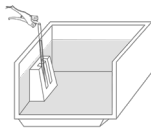

Figure 5. Sealing the container straw
- 6) Manually seal the open end of the container straw using the temperature-controllable heat sealer. Inspect the seal and ensure that there are no holes, tears or other openings. (See Figure 5). Recommended sealer parameters: Temperature 120±5 °C, setup time 2-3 s.